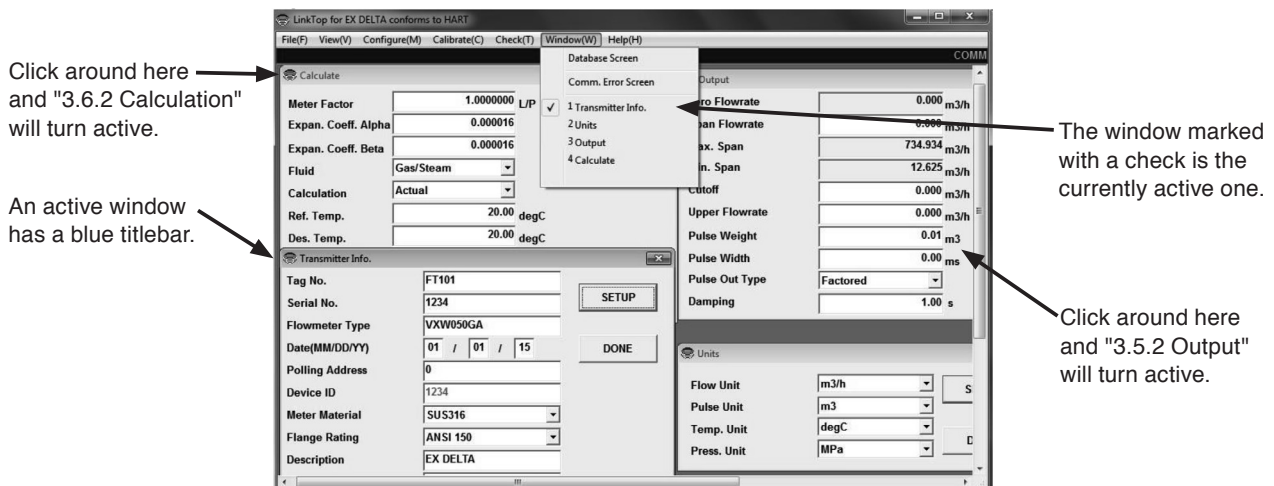

Fig.58
- ① Suppose several message boxes exist on the screen as shown in Fig. 58, for example, clicking "Window" at the menu allows the names of message boxes currently present on the screen with active window (s) marked with a check.
- ② At this point, clicking on the name of the window you want to activate will make that window indicated active.
- ③ There is another way to switch a window from active to inactive, and vice versa: click on any part in the message box and the window will turn active. See Fig. 58.